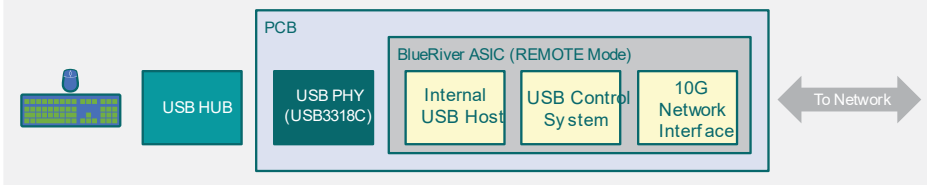

Figure 3-11: REMOTE USB HUB Port Connected to External USB HUB
1. Situated outside the product PCB, refer below to Figure 3-11: REMOTE USB HUB Port Connected to External USB HUB.